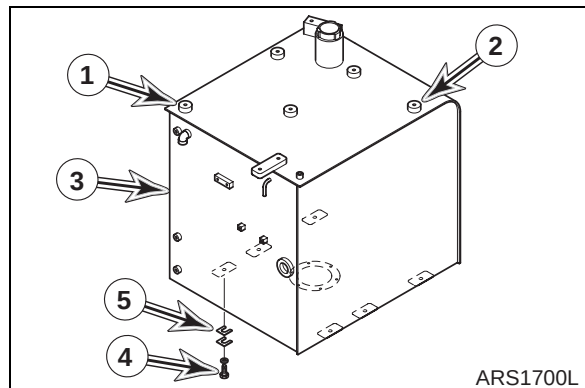

Figure 12
21. Install two 12 mm eye bolts in threaded holes (1 and 2, Figure 12). Using a suitable lifting device, sling eye bolts.
22. Remove six bolts and washers (4, Figure 12) holding tank (3) to frame. Lift tank 25 mm (1") and make sure it is balanced. Make sure that there are no other electrical wires or hoses connected to tank. Completely remove tank after inspection.
23. Remove shims (5, Figure 12).